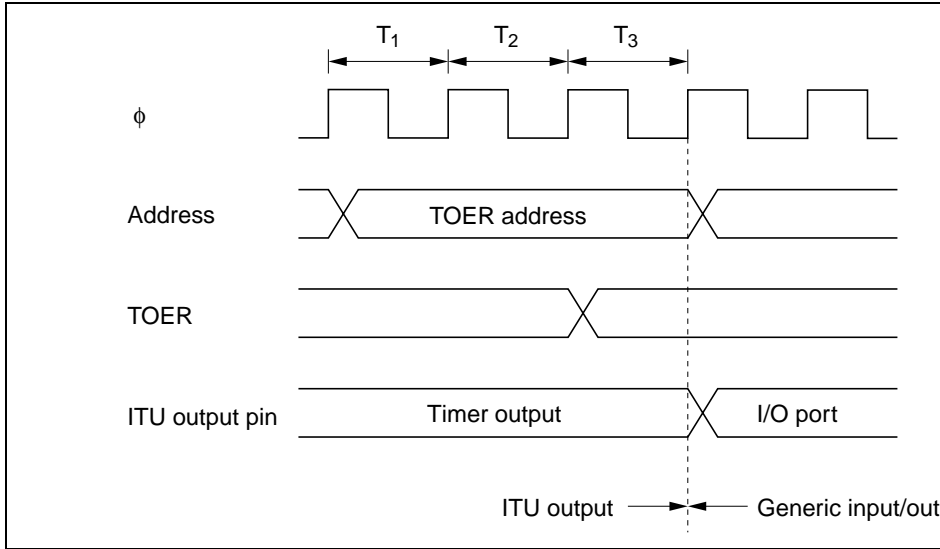

Figure 8.54 Timing of Disabling of ITU Output by Writing to TOER (Example)
arbitrary value can be output by appropriate settings of the data register (DR) and data register (DDR) of the corresponding input/output port. Figure 8.54 illustrates the timing of enabling and disabling of ITU output by TOER.